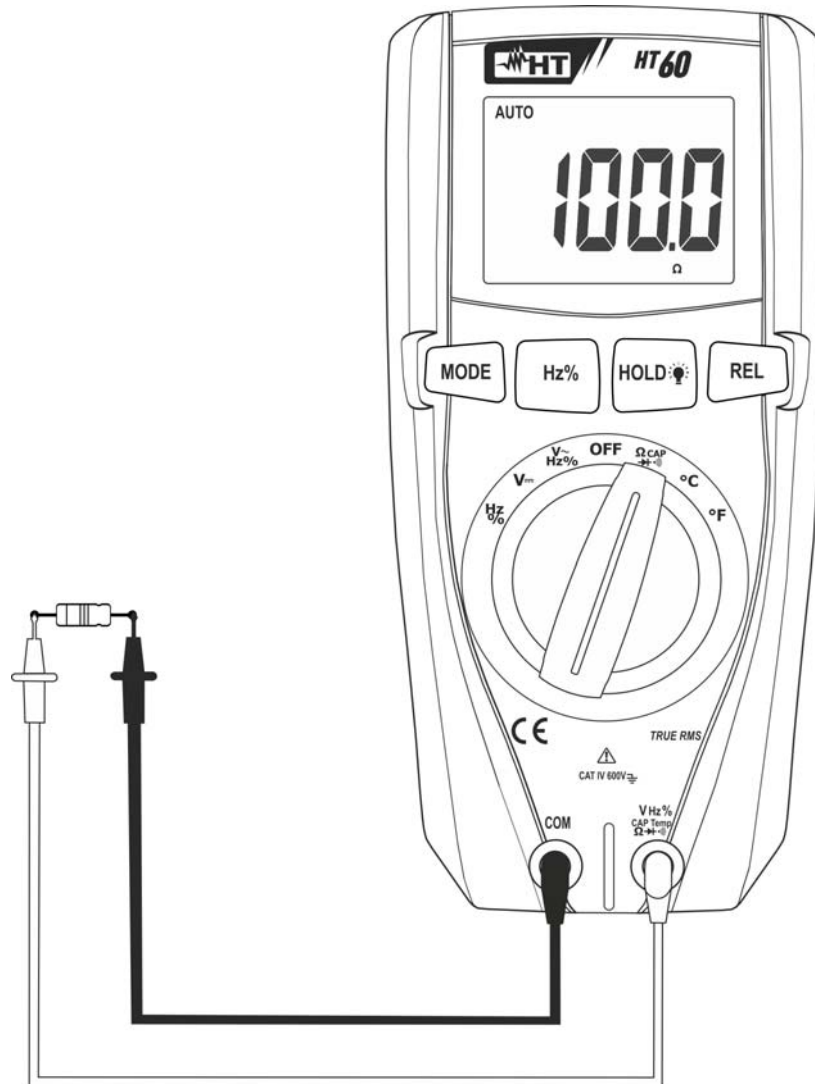

Fig. 4: Use of the instrument for resistance measurement and continuity test
3. Position the test leads in the desired spots of the circuit to be measured (see Fig. 4). The display shows the value of resistance.